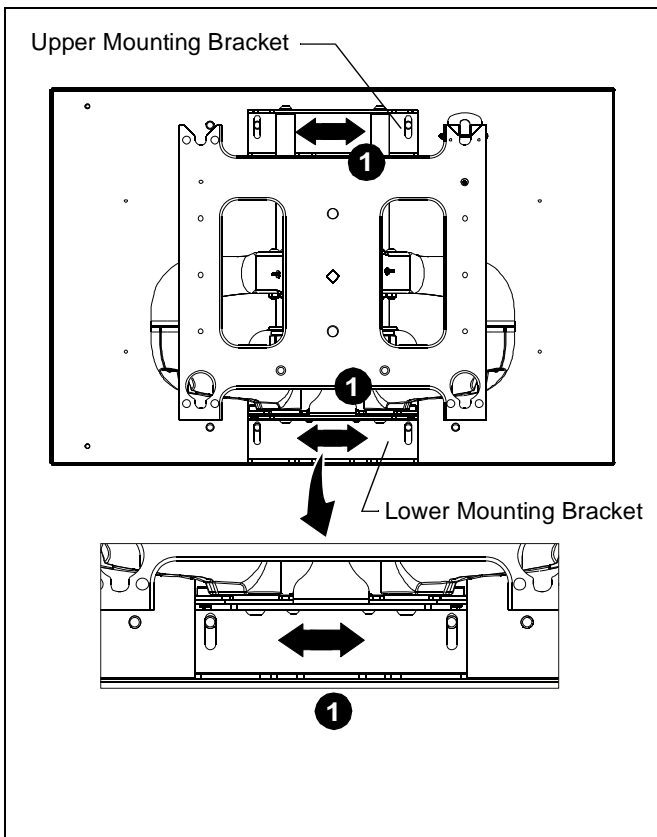

Figure 1
1. Align mounting holes in swing arm UPPER and LOWER mounting brackets with four mounting holes in PAC501. (See Figure 1)